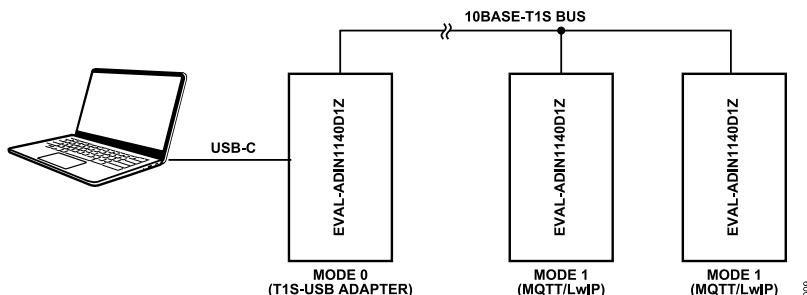

Figure 9. Sample Network Configuration using EVAL-ADIN1140D1Z
The EVAL-ADIN1140D1Z boards offer a quick and easy way to evaluate and demonstrate the functionality of 10BASE-T1S technology, utilizing the board's 10BASE-T1S-USB adapter mode and MQTT sensor mode. Figure 9 shows a typical 10BASE-T1S network using the EVAL-ADIN1140D1Z board.
2. Connect boards through a single pair cable via their 10BASE-T1S connection, as shown in Figure 9.